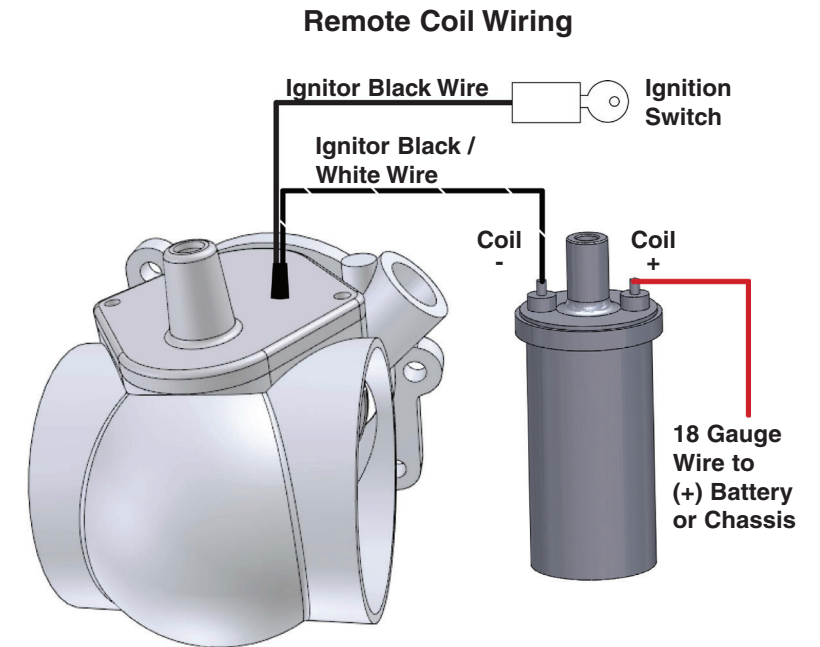

FIGURE 4
- Typical installations using the original distributor mounted coil require a small hole to be drilled into the distributor housing for the wire exit, See Figure 1. Use a .25" drill bit to make a hole at the location indicated in the illustration below. If a remote coil adapter will be used, the wire exit hole can be drilled in the adapter instead, see Figure 4.
- For installations with remote coil adapters, install the provided grommet to both the black and black and white stripe wire and pull the wires through the hole in the adapter plate. Attach the black and white wire to the coil negative terminal. Connect the black wire to the wire coming from the ignition switch. Using a 18G wire, connect one end to the coil (+) terminal. Connect the other end to the battery (+) terminal or engine ground. SEE FIGURE 4